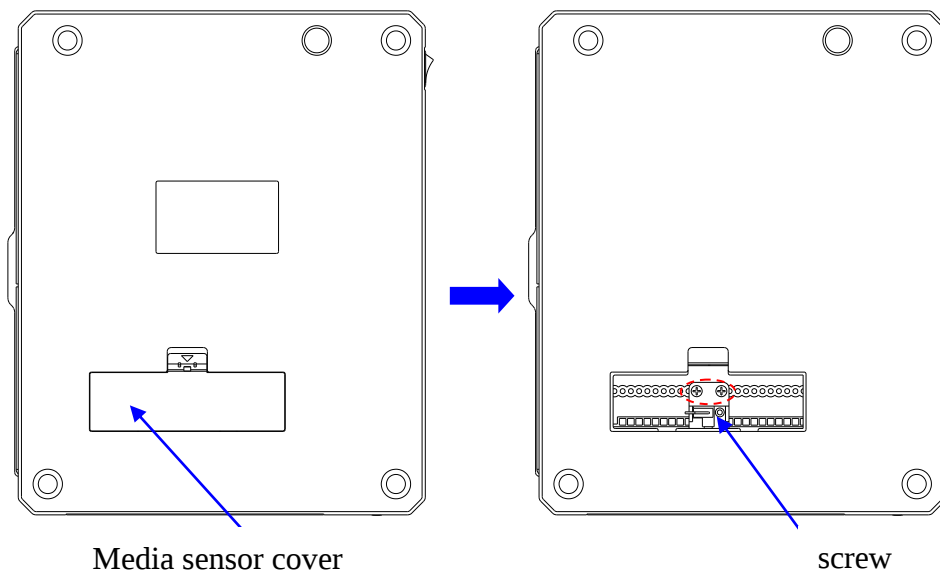

Figure 2-18 Change the Reflective Media Sensor Position
2. Move the media sensor to the appropriate position. See Figure 2-18.